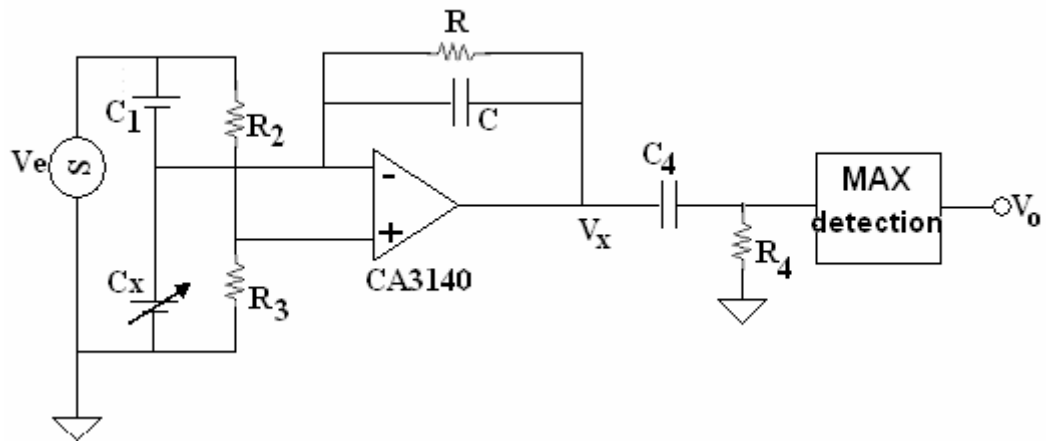

Figure 5
7. The circuit in figure 5 is the signal conditioner for a capacitive level sensor that has  $C_{min} = 41.46\text{PF}$ ,  $C_{max} = 87.07\text{PF}$  & sensitivity  $0.19\text{PF/L}$ . Design the circuit components to obtain a frequency independent voltage that is 0V for the empty tank and 1V for the full tank. [16]